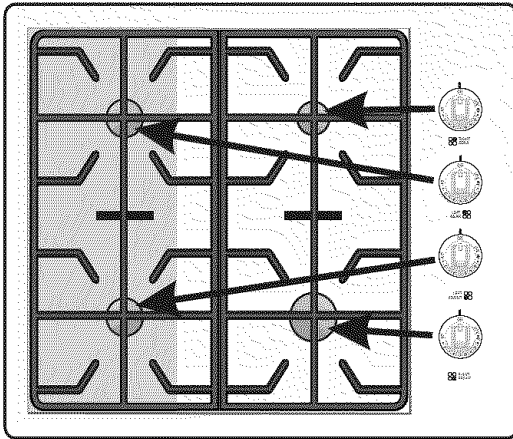

Figure 1 (30" models)
1. Place all 4 (four) or 5 (five) Burner Heads in the correct locations (See Figure 1). Make sure that the correct Burner Head is placed with the corresponding Gas opening and that the Electrode is located properly in the slot of each Burner Head (See Figure 2). Proper Burner Head placement insures that each Burner will have the correct spark required for surface gas ignition.